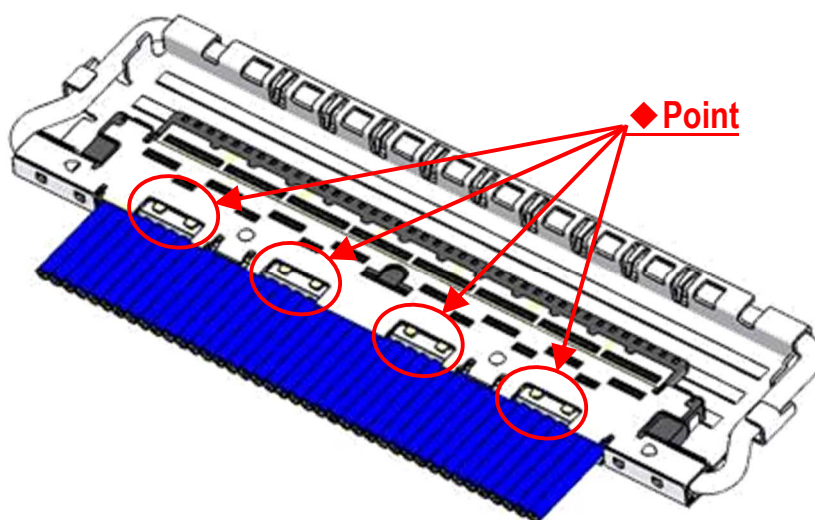

Fig.11 Soldering of SHELL-B and GND BAR
- ④ SHELL-A and SHELL-B are soldered with the soldering iron at all designated points. (Fig.11 ◆point)